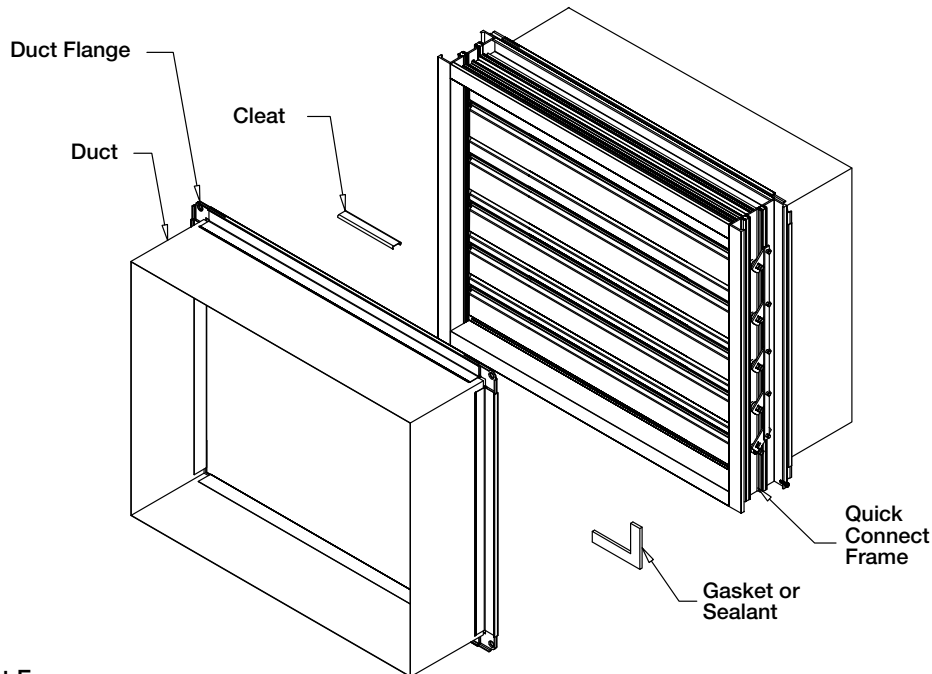

Figure 5: Quick Connect Frame
2. To seal the two flange systems together Neoprene or Butyl gasket may be applied to the mating surfaces (Figure 5).